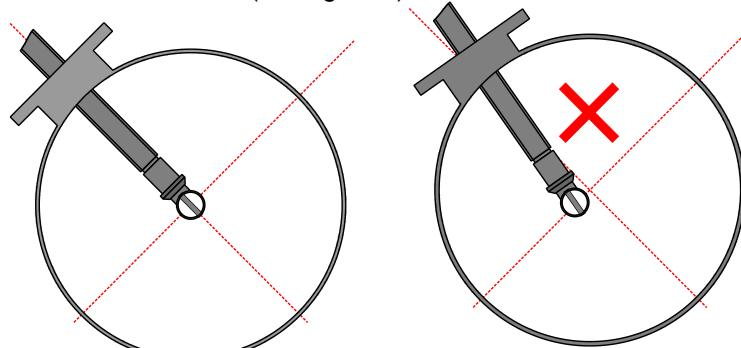

Figure 2.13 – Flow meter positioning
- weldneck and insertion bar shall be installed perpendicular to the pipe in the place of installation (see fig.2.13);